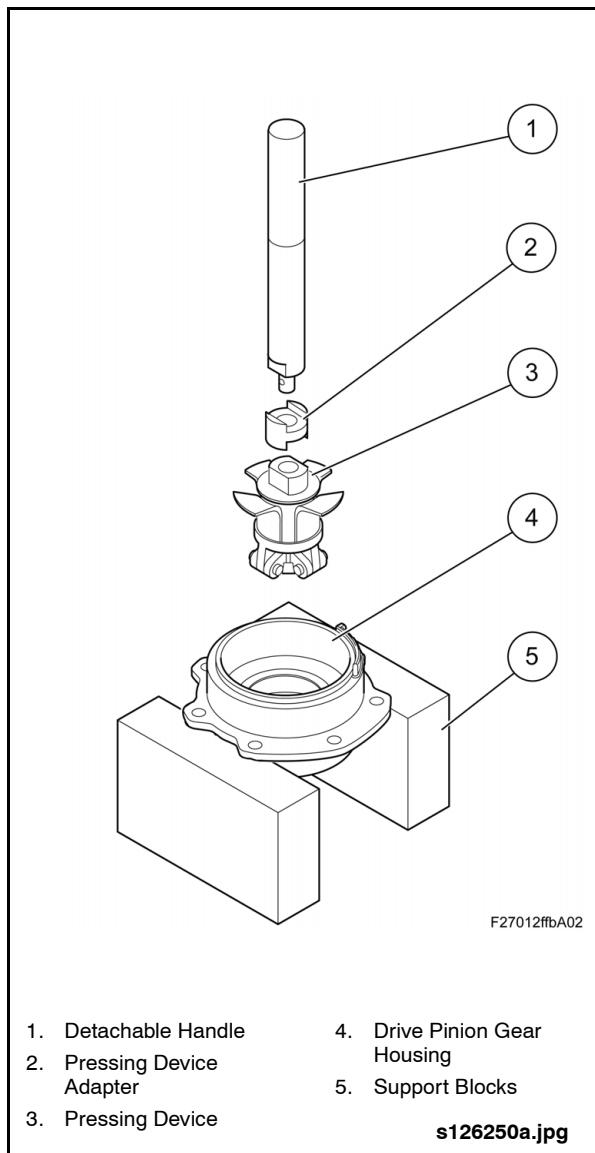

Fig. 2-94: Removing Outer Bearing Outer Race
1. Position the drive pinion gear housing on support blocks with the input end facing down. See "Fig. 2-94: Removing Outer Bearing Outer Race" on page 74.